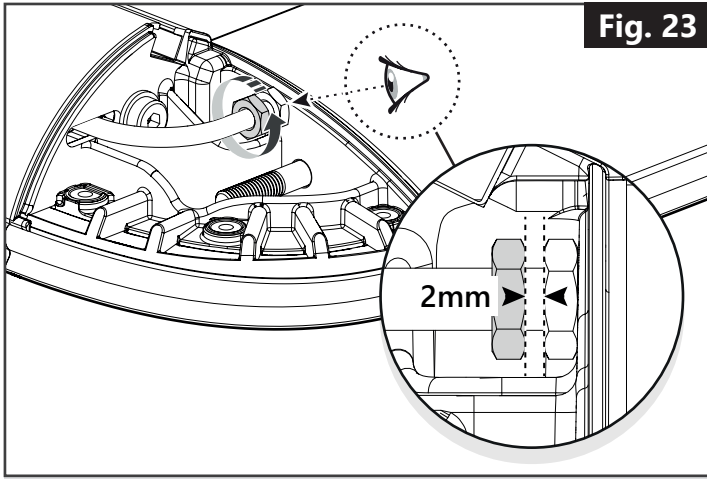

Fig. 23
- 5) Underneath the plastic cover, locate and loosen the outer nut until there's ~2mm space between the inner and outer nuts. **(Fig. 23)**